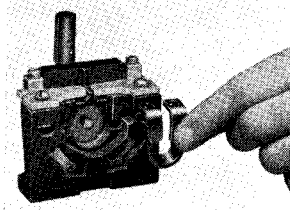

FIG. 1. Thermal Overload Relay, Showing Heater and Installation Method
3. The overload heaters are shipped in a separate carton. First check the heater marking (adjacent mounting holes) against the Heater Application Tables to see that the full load current marking of the motor nameplate comes within the current range of the heater. Install heater as shown in Fig. 1, making sure that heater mounting screws are tight.